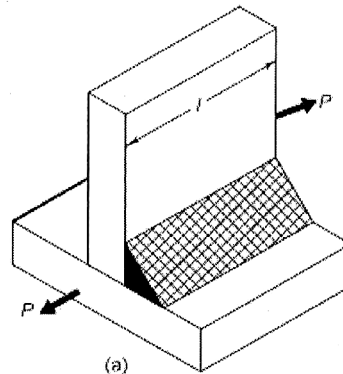

Fig Q5a
5. (a) A welded joint for T-joint made of 20mm thick plates is shown in Fig Q5a. If the load to be carried, $P = 40$ kN, what should be the length of the weldment 'l'. Assume leg of the weld to be the same as thickness of the plate and the permissible tensile and shear stresses in the weld to be 150 N/mm^2 and 90 N/mm^2 respectively. [5]